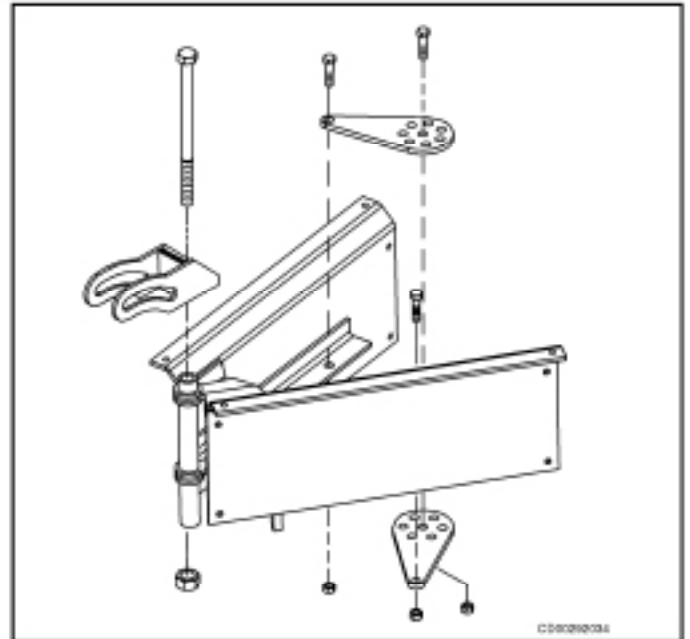

Figure 58 Assembling Hiller
1. Assemble as shown in Figure 58.